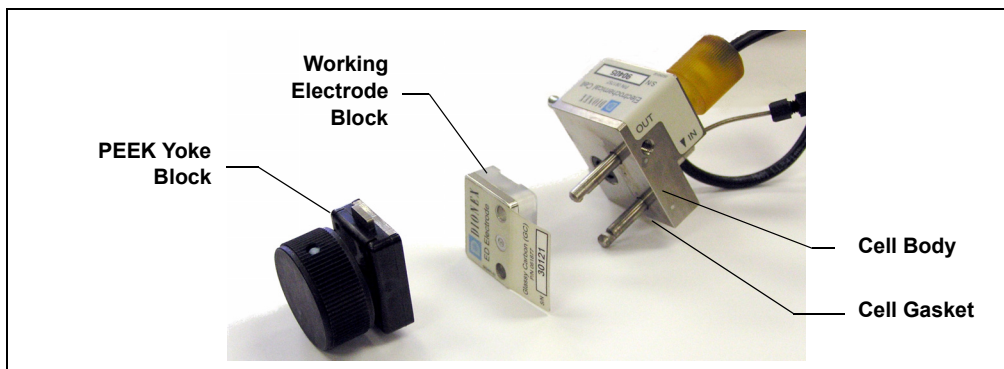

Figure 9-34. Amperometry Cell Components
6. Carefully separate the parts (see Figure 9-34).